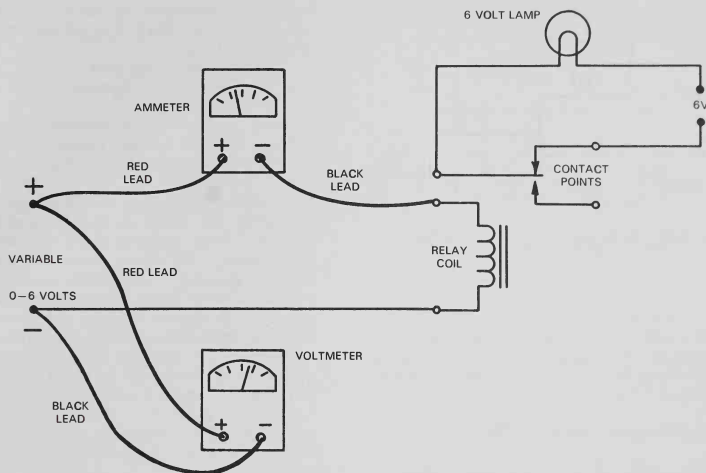

Fig. 18-19. The electrical connections for testing the operating voltage and current of the relay.
1. Connect the relay operating coil to a variable (0-6 volts) voltage source. Connect voltmeter across the source and the milliammeter in series with the coil as in schematic, Fig. 18-19.